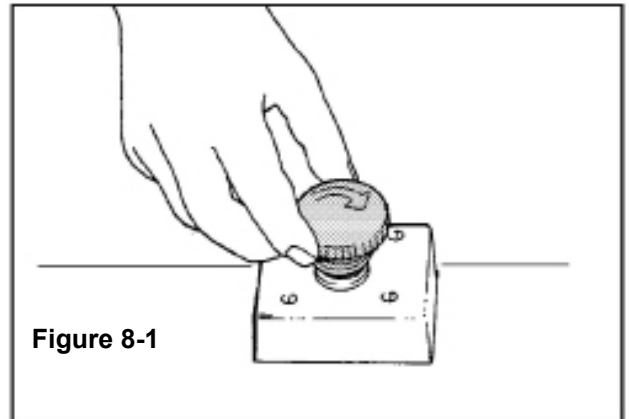

Figure 8-1
- The EMERGENCY STOP BUTTON unlocked (**Figure 8-1**)